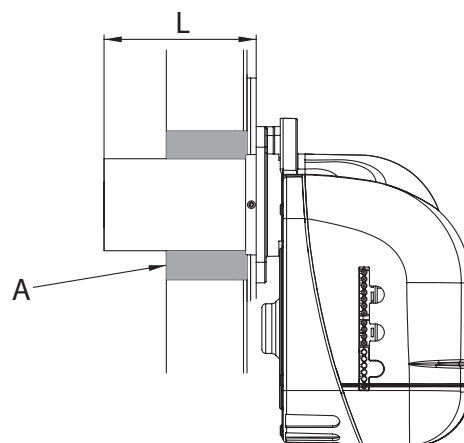

fig. 9
5.7 Assembling the burner (Fig. 9)